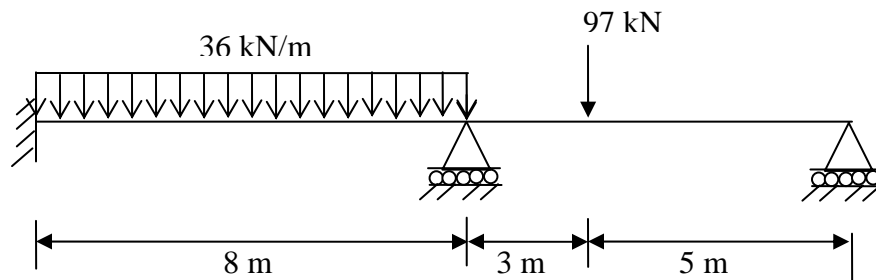

Fig.6
- b) A continuous beam has uniform cross-section. If the collapse just occurs under the loads as shown in Fig.6. It has uniform plastic moment capacity M_p . Determine the value of plastic moment for design. [7+8]